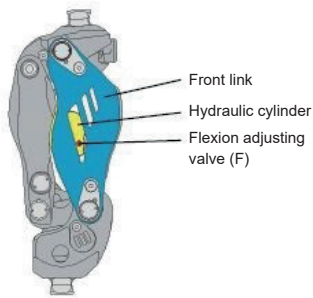
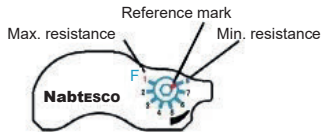

Fig. 11 Location of the Flexion Adjusting Valve
Fig. 12 Graduated Scale of the Flexion Adjusting Valve
As shown in Fig. 11, the flexion adjusting valve (F) is located on the right when viewed from the user. As shown in Fig. 12, the scale is graduated from "1" to "8". "1" corresponds to the highest hydraulic resistance, and "8" corresponds to the lowest.